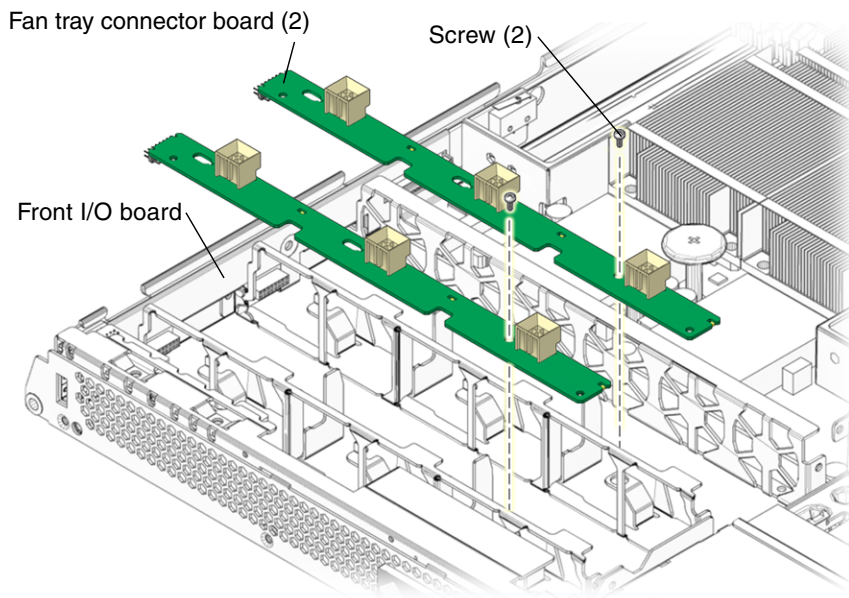

FIGURE 3-29 Removing the Fan Tray Connector Board
3. Remove the Phillips screws that secure the fan tray connector boards to the chassis (FIGURE 3-29).